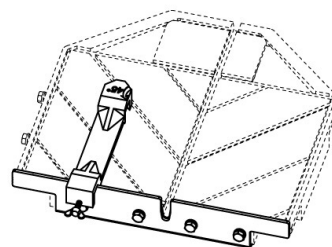

Figure 4
1. Set the rip guide at the desired location on the ruler guide and tighten the threaded knob. Make sure that the rip guide is firmly tightened to avoid slippage. The rip guide can be used for 45° and 90° cuts. (See figure 4).